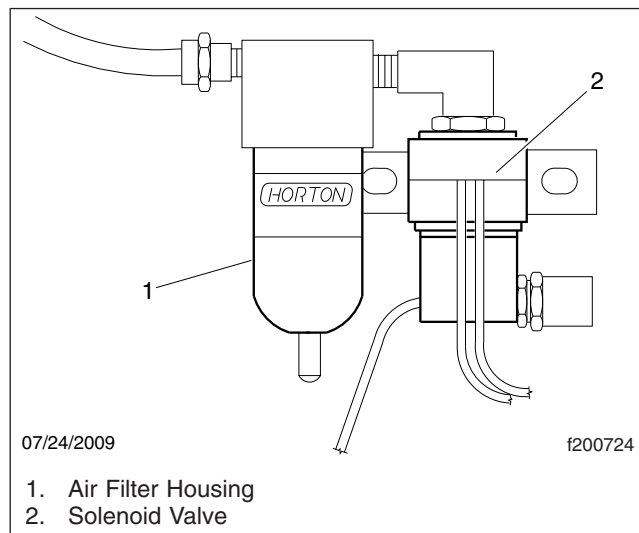

Fig. 4, Horton DriveMaster Air Solenoid Valve
2. Inspect the electrical connections and wires to the fan clutch solenoid; see **Fig. 4**. Secure the connection if loose; replace wires and connectors if damaged.